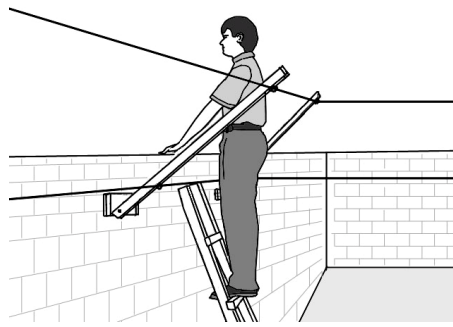

Fig.2.10. Simulation mean of DZ overcoming
2.7.3.1. With “visor” application of the detector (see fig.2.1 3)) the operator realizes some simulations of DZ overcoming (see fig.2.10).
2.7.3.4. The operator must approach quickly to LP. Place the stairs to the fence, go upstairs and be situated between LP wires (see fig.2.10). Stay in a detection zone for 3...5.sec. Go down, take the wooden ladder and move away from LP at a distance 2-3 m.